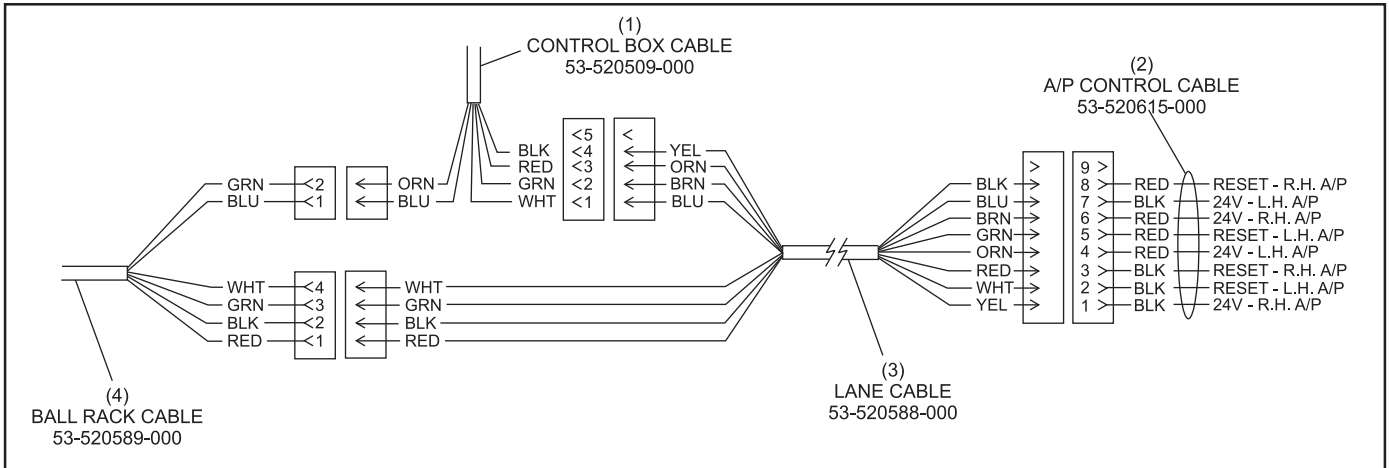

Figure 19. Lane Cable
1. Locate the lane cable, 53-520588-000. Refer to *Figure 19*.